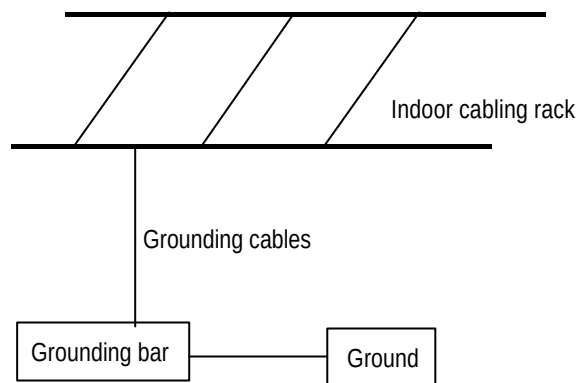

Figure 5-3 Schematic drawing for indoor cabling rack
- 2) The indoor cabling rack can be grounded through the indoor grounding bar. To start the grounding, first connect the lug at one end of the grounding cable to the cabling rack and then connect the other lug to the indoor grounding copper bar. The grounding of the indoor cabling rack is shown in Figure 5-3.